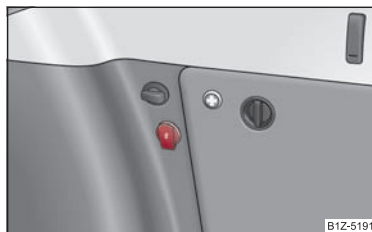

Fig. 87 Luggage compartment: Power socket
- Open the cover of the power socket ⇒ fig. 87.